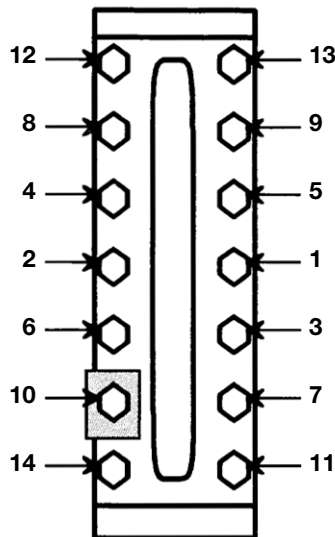

Figure 1: Nut tightening sequence
Using a torque wrench, tighten nuts in five ft-lb increments following the "Z" pattern sequence in Figure 1, until the torque values shown in Table 3 above for the specific liquid level gage are reached. For multiple section gages, torque the center section(s) and progressively work toward the ends of the gage.
10. for reflex gage, quickly turn over assembly onto back side of U-bolts. Assemble nameplate, washer, and nuts to U-bolts. Tighten nuts with fingers. Using a torque wrench, tighten nuts in five ft-lb increments, following the sequence in Figure 1 until the torque values shown in Table 3 are reached.
Note: Depending on gage size there may be less bolting than shown in Figure 1. Start at the center and follow "Z" pattern outward to the limit of bolting on a specific gage.
15. install nameplate, washer, and nuts to studs. Tighten nuts with fingers. Using a torque wrench, tighten nuts in five ft-lb increments, following the sequence in Figure 1 until the torque values shown in Table 3 are reached.